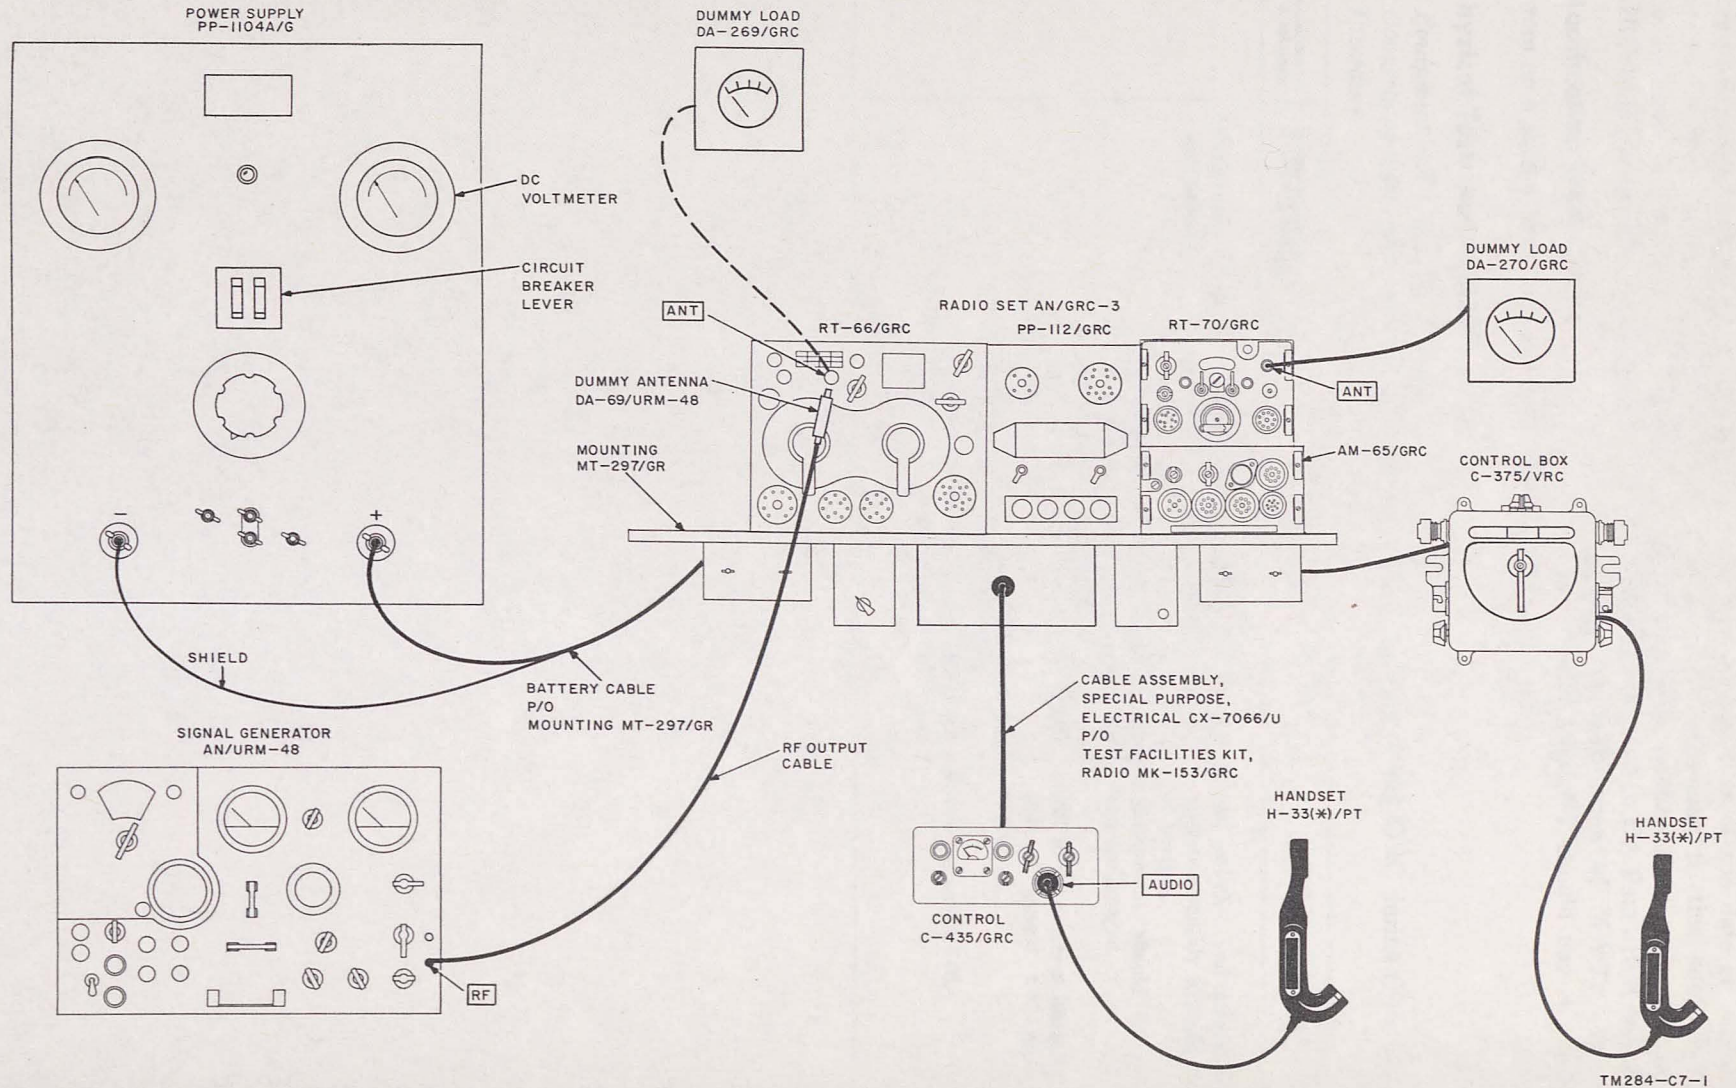

Figure 90.1 Equipment connections for operational tests.
b. *Test Connections and Conditions.* This test assumes that the AN/GRC-3 has been pretuned and that receiver squelch circuits have been adjusted. Insure that Power Supply PP-1104A/G output selection terminal links are connected for 28-volt operation. Connect equipment as shown in figure 90.1.